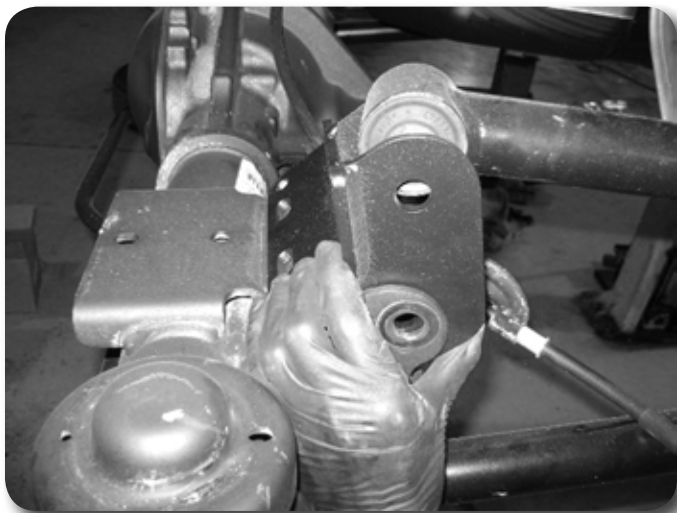

Figure 21
74. Place the upper control arm relocation bracket over the pocket. The plate will be offset towards the inside of the vehicle. The upper plate will only use 2 of the 4 holes. Mark the center of the holes and drill to 7/16". Figures 21, 22, 23 - pass side, Figures 24, 25 - drv side